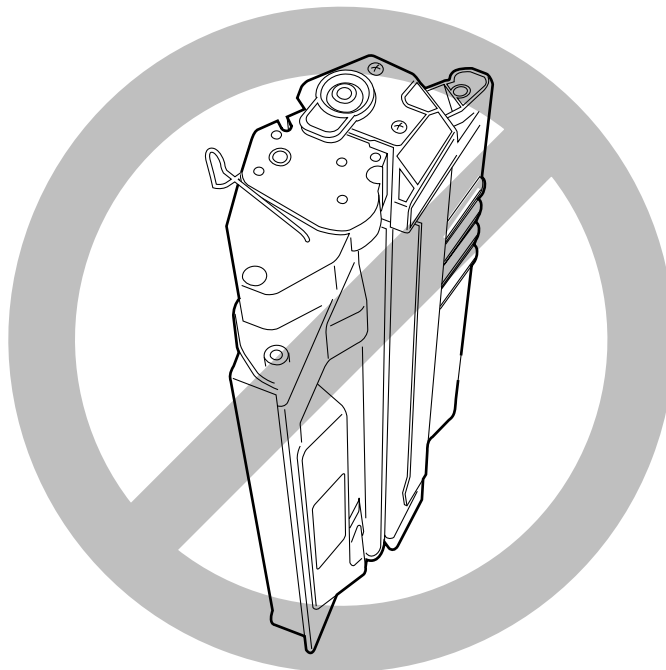

Figure 12-402
- b. As shown in Figure 12-402, do not hold the cartridge vertically or upside down. Also, do not wave it about.